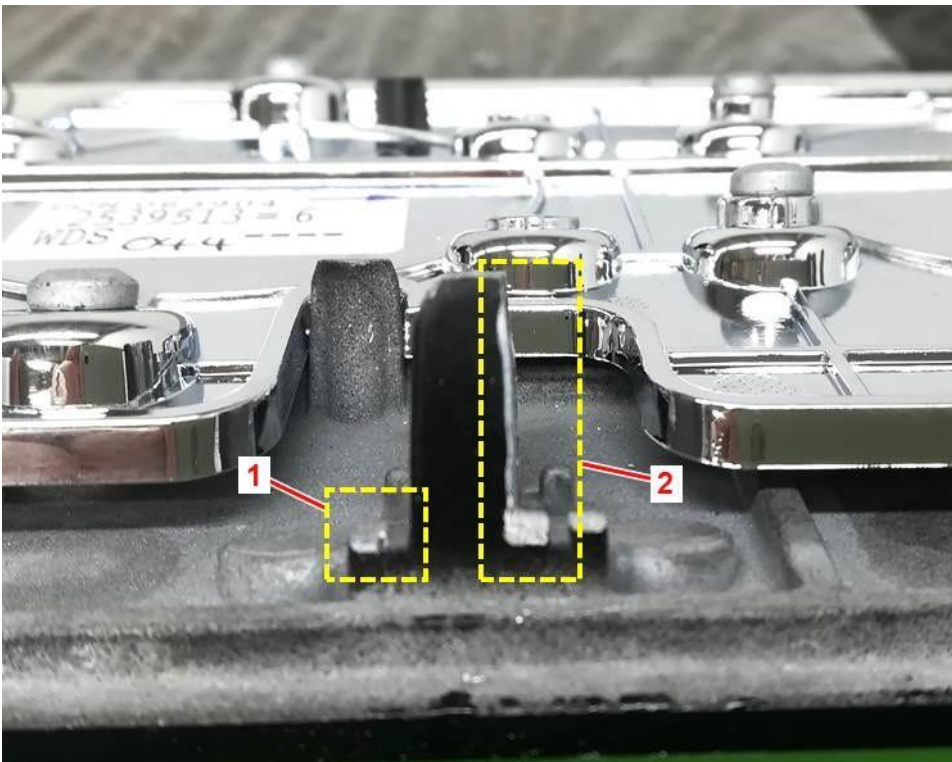

Figure 4
Figure 4 shows what the central locator pin should reflect after filing. The RPS point (1) being filed flat level with the recess. The side of the locator pin (2) being filed to remove the correct amount of material, again down to the level of the recess.